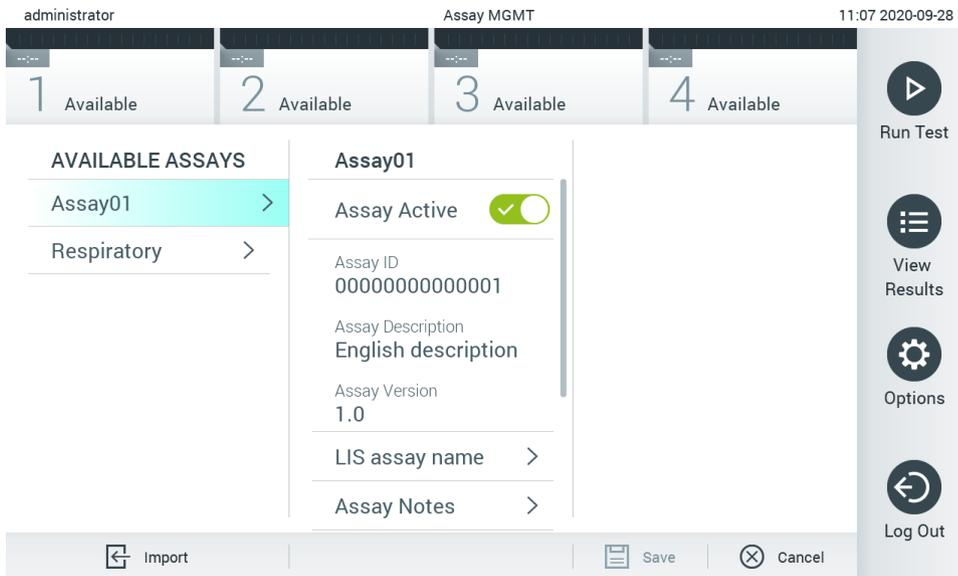

Figure 68. Activating the assay.
7. The assay becomes active by selecting Assay Active (Figure 68).